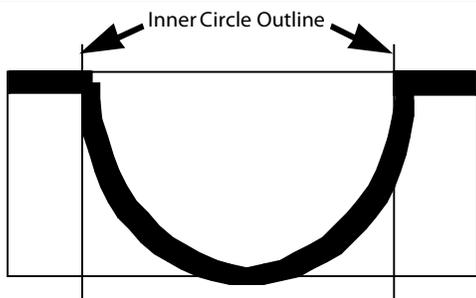
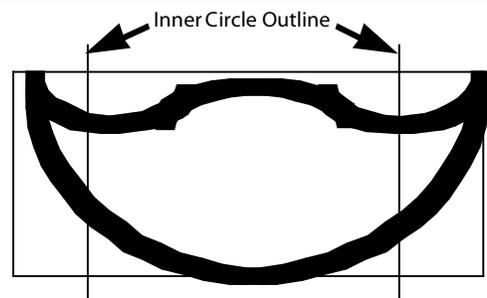

Fig. 7 – Turning a wide lip leaves scallops on the lip
Fig. 8 – No lip puts scallops on bowl sides
15. Turn the bowl as you would normally turn a bowl. If you turn a wide lip on the bowl (i.e. start hollowing the bowl part at or inside the inner circle - Fig. 7), the scallops will only be evident on the lip. If you turn the bowl to have no lip (i.e. start hollowing the bowl part at the outer circle - Fig. 8), the scallops will be evident on the sides of the bowl. If you start hollowing the bowl part between the inner and outer circles you will see scalloping on both the lip and the sides of the bowl.